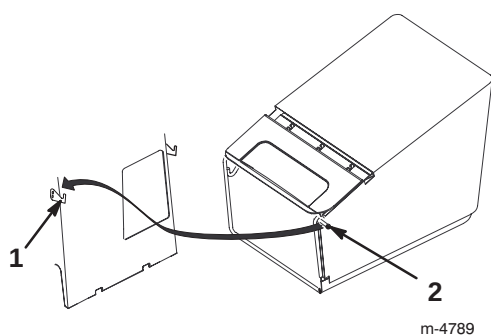

Figure 16
5. Hang the grass bag frame pins onto the deck hooks as shown in Figure 16.
4. Lift the grass bag frame pins off the deck hooks and out of the opening as shown in Figure 16.